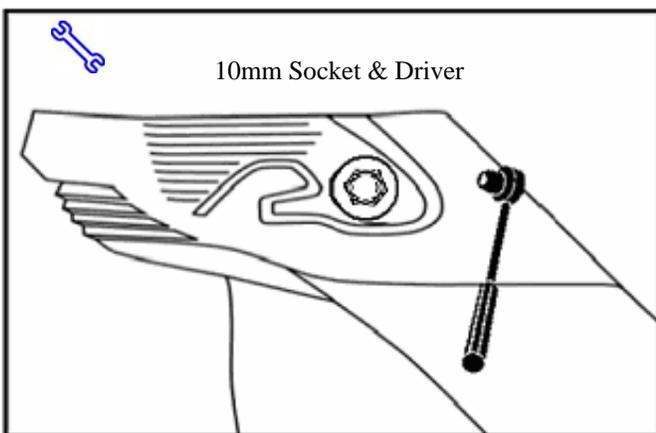

Fig. 1-1
- (b) Remove and retain the screw using a 10mm socket and driver.(Fig. 1-1)